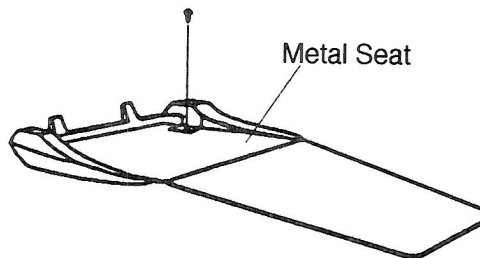

Figure 5
8) Remove 4 phillips head screws securing backrest cover to backrest frame. Attach backrest frame using 4 large socket head cap screws. (See Figure 5.)
10) Attach metal seat to base plate, Using 4 phillips head screws. (See Figure 5.)